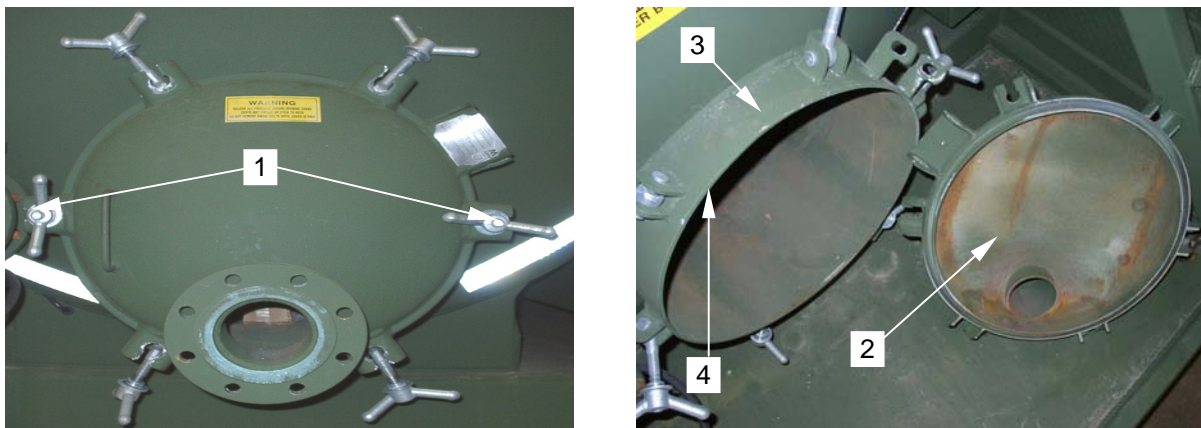

Figure 5. Replacing Gasket and Closing Manway
5. While supporting the manway, remove the remaining swing bolt assemblies (figure 5, item 1) and lift the manway (figure 5, item 2) off the rim (figure 5, item 3).
6. Clean the edge of the manway rim (figure 5, item 4) with a rag.